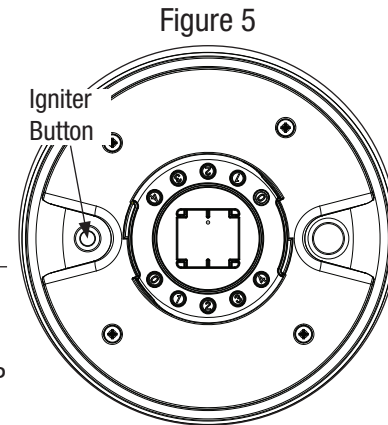

Figure 5
7. IMMEDIATELY press and hold igniter button down until you hear a "POP" sound indicating ignition. Normally occurs within 20 seconds (Figure 5).